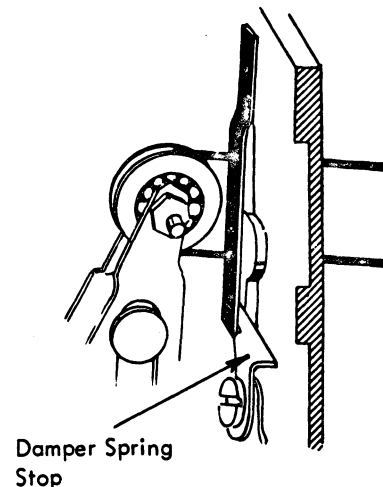

FIGURE 124. Damper, Spring Stop - Preliminary Adjustment
- a. Damper spring stop - as a preliminary adjustment, slide the damper spring stop down as low as it will go behind the damper spring (Fig. 124).